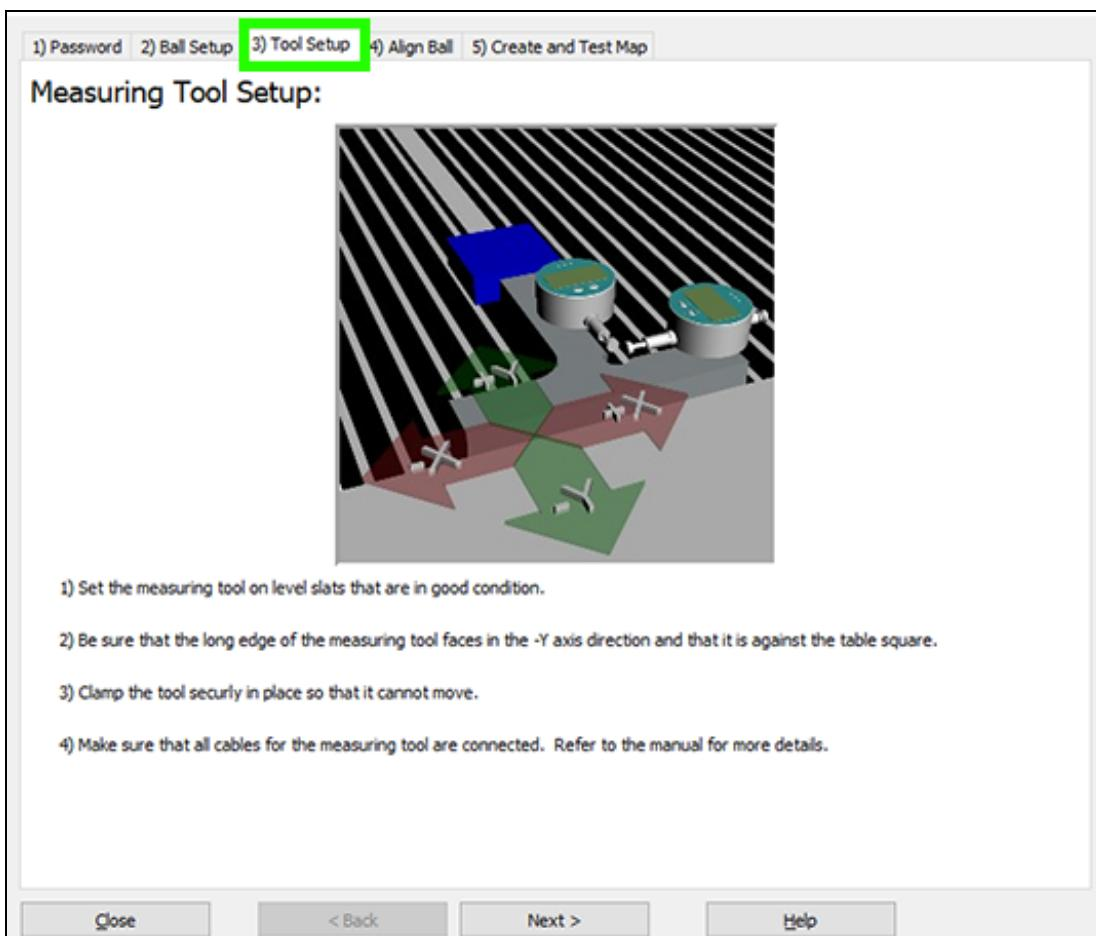

Figure 7
6. Select **Next** to proceed to the **3) Tool Setup** tab (Figure 7).